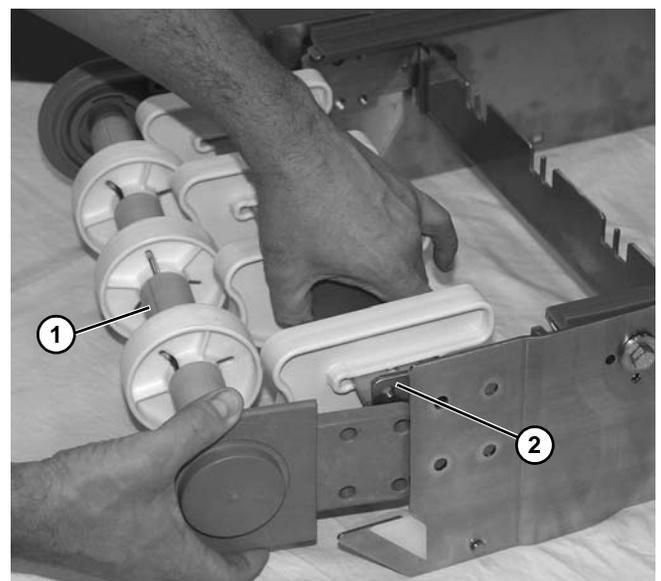

Figure 53
3. Slide the idler spindle assembly (Figure 53, item 1) off the pivot tail blocks (Figure 53, item 2).